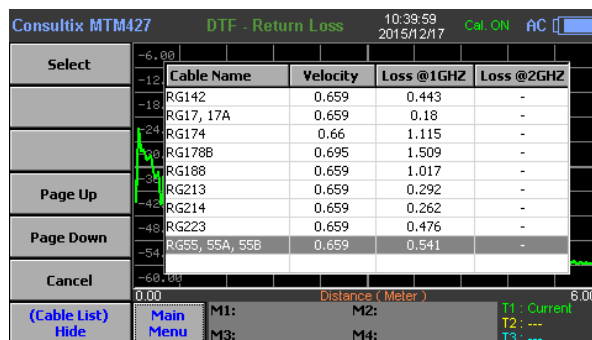

Figure 43: Selecting Cable type
4. **Main Menu > Measurements > Frequency**, click “Cable List” and choose your cable type as shown in **figure 43**